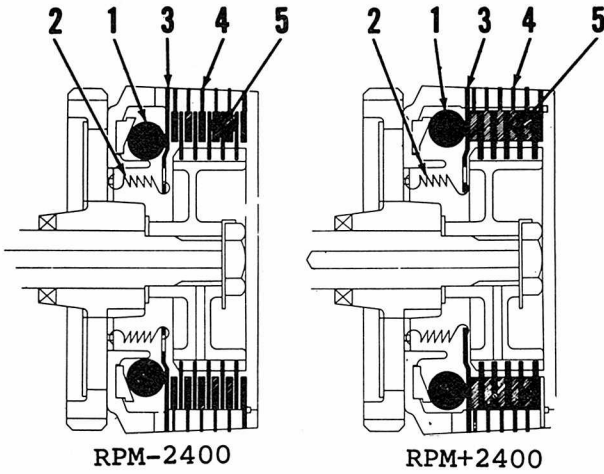

Fig. S9-5 — Cross sectional view of automatic clutch used on F 50 and F 50R models.
**CLUTCH.** F 50 models are equipped with a wet, multi disc, automatic clutch. Clutch is engaged by centrifugal force at approximately 2400 RPM. Springs (2—Fig. S9-5) hold clutch inner plate (3) in a released position. At approximately 2400 RPM, rollers (1) move outward and engage clutch plates (4&5).